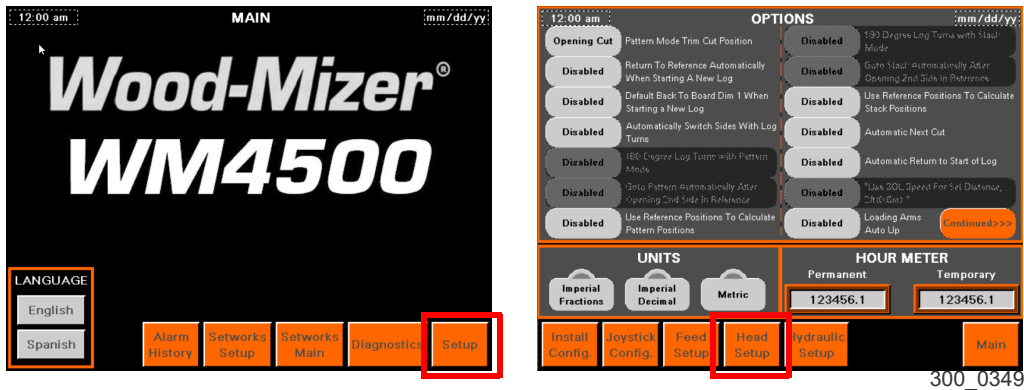

FIG. 3-48
See Figure 3-48.
1. From the Main screen press the Setup button. (See Figure 3-48.)
2. On the Setup screen press the Head Setup button. (See Figure 3-48.)